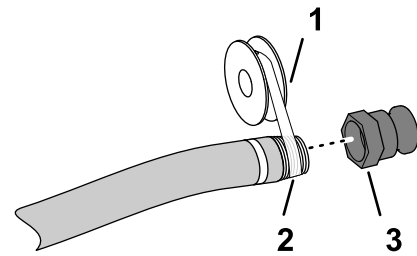

Figure 4
6. Thread the quick-disconnect coupling onto the fill hose and tighten it by hand (Figure 4).
5. Apply PTFE thread sealant (Figure 4) to the threads of the fill hose fitting (1 inch—national pipe thread).